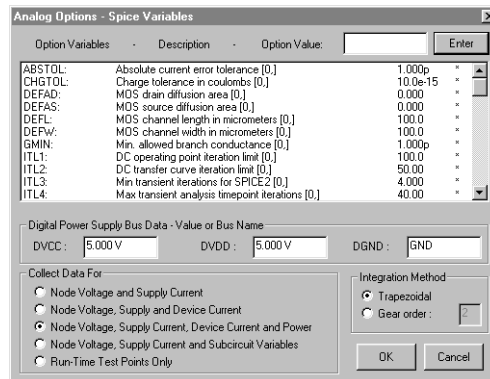

Figure 3.6. The third Collect Data For option (selected) lets you measure voltage, current, and power with the Probe Tool.
- 6 Click on the **Analyses Setup** button in the Toolbar, then click the **Analog Options** button to display the dialog box shown in Figure 3.6.